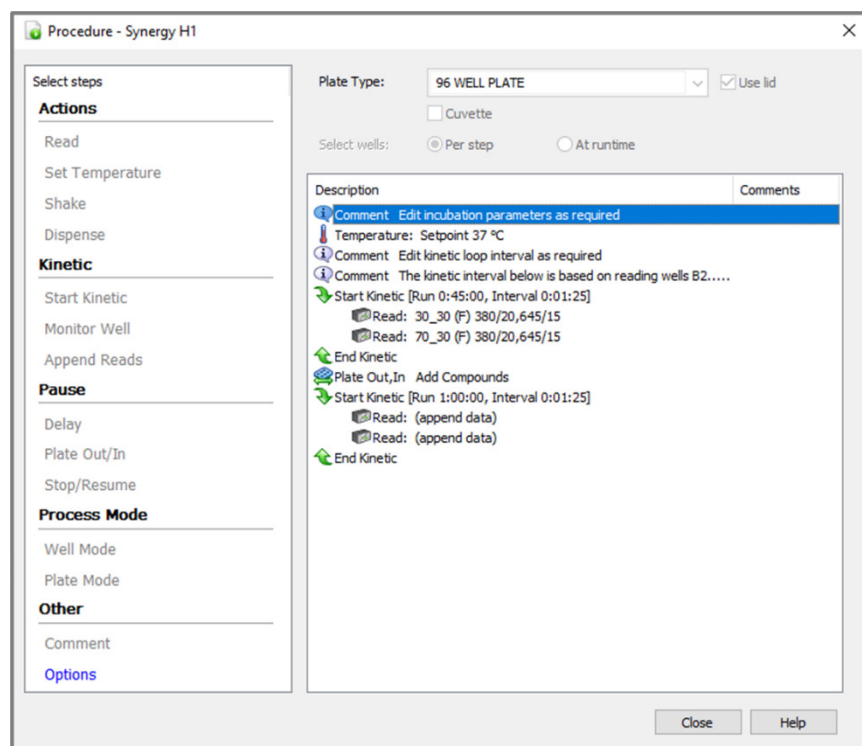

Figure 5. Procedure steps for an intracellular oxygenation assay with a pause step to add compounds following basal reads.
6. In both Read steps, select **Append to previous Kinetic data** (Figure 5).